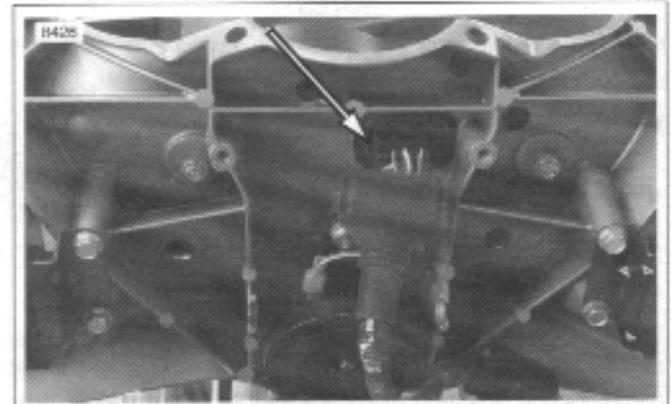
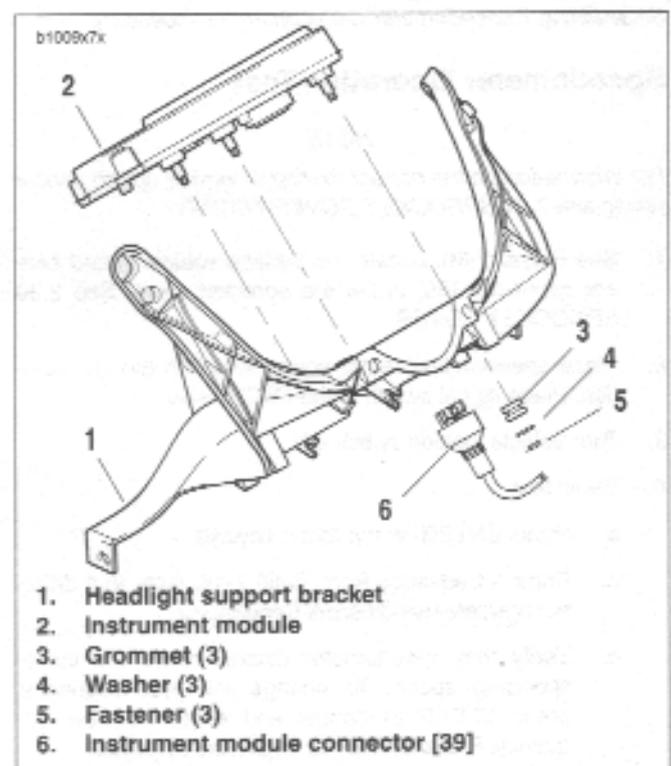

Figure 7-57. Instrument Module Connector [39]
Figure 7-58. Instrument Module
3. See Figure 7-57. Disconnect instrument module connector [39].
4. See Figure 7-58. Remove fasteners (5) and washers (4).
5. Pull instrument module (2) from headlight support bracket (1).
1. See Figure 7-58. Place instrument module (2) into position in headlight support bracket (1).
2. Install washers (4) and fasteners (5). Tighten fasteners to 12-36 in-lbs (1.4-4.0 Nm).
3. See Figure 7-57. Connect instrument module connector [39].